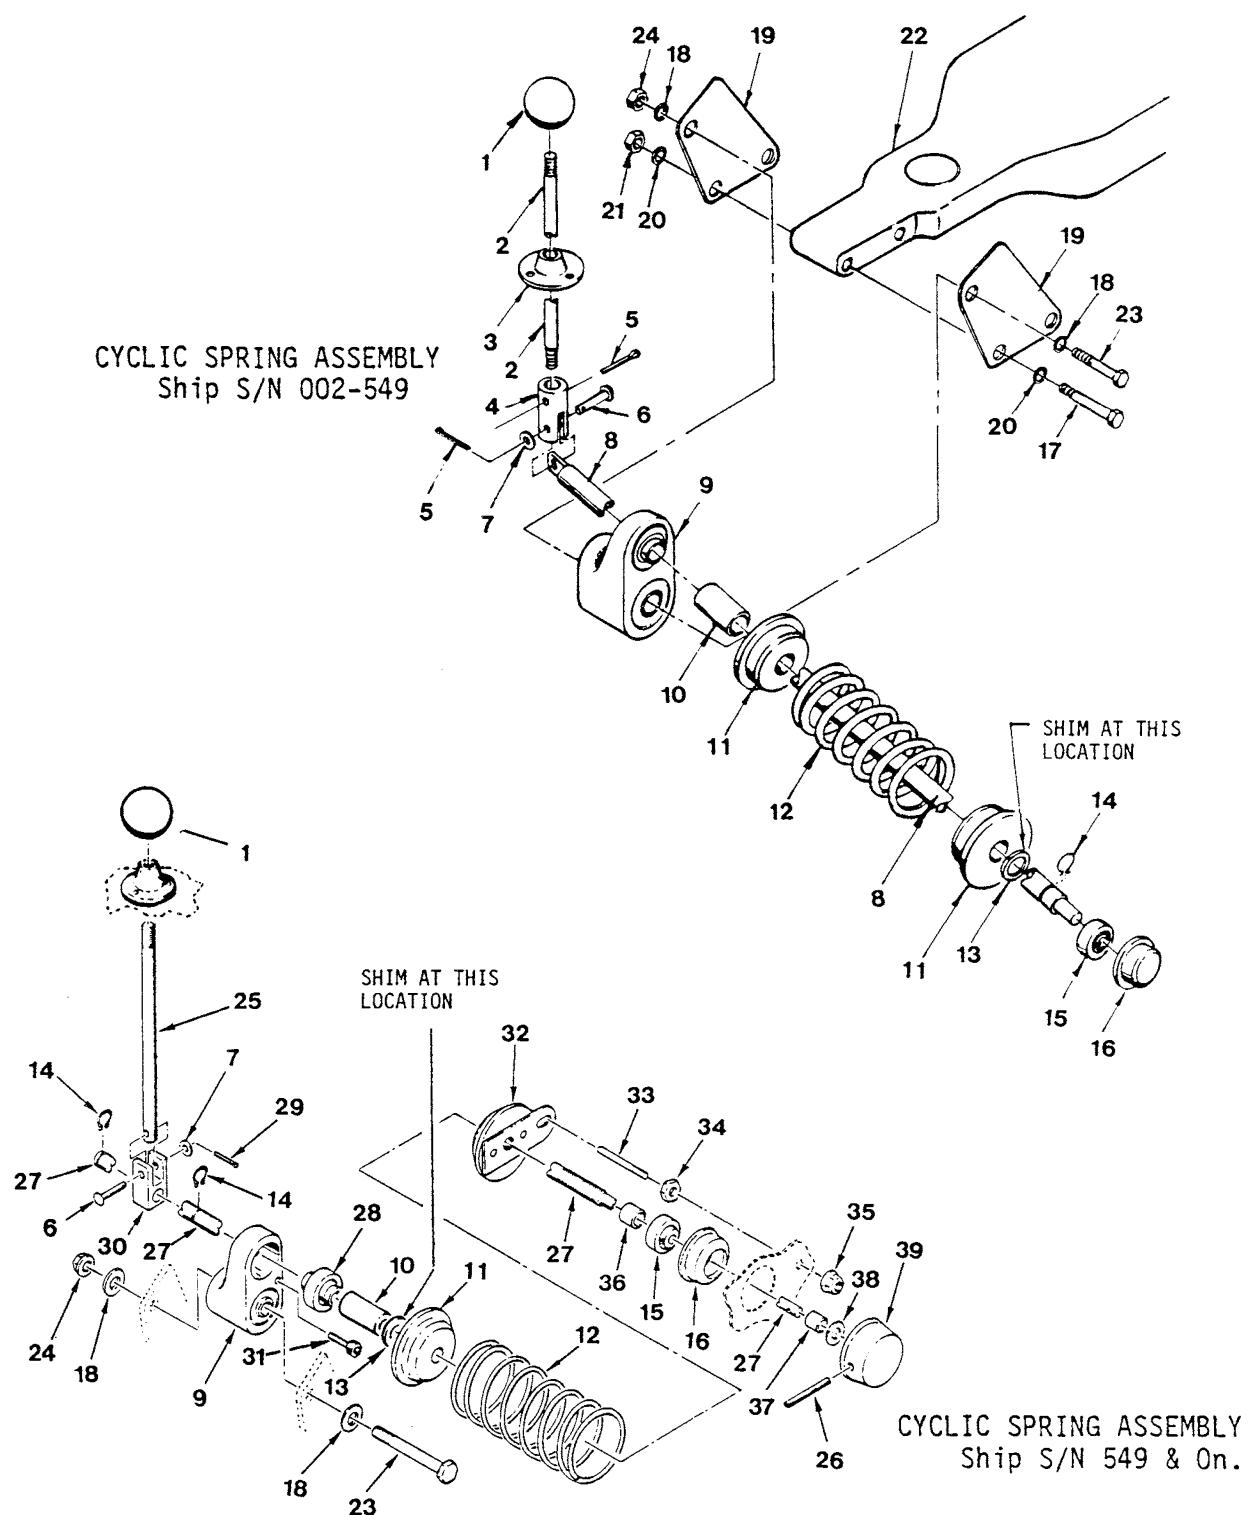

FIGURE 8-4 RIGHT TRIM ASSEMBLY
8.133 Right Trim Spring Replacement & Shimming (See Fig. 8-4)
b) Shimming Right Trim Spring (See Fig. 8-4)